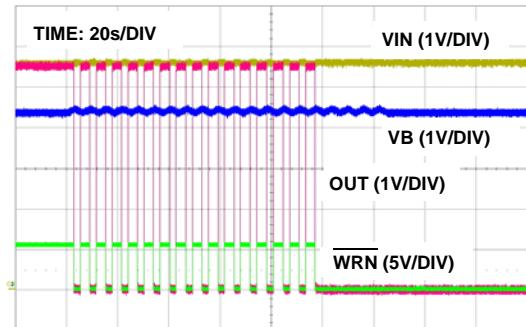

FIGURE 7. BATTERY OVERVOLTAGE PROTECTION. THE IC IS LATCHED OFF AFTER 16 COUNTS OF PROTECTION.  $V_B$  VOLTAGE VARIES BETWEEN 4.3V TO 4.5V
The battery voltage OVP is realized with the VB pin. The comparator CP3, as shown in Figure 1, monitors the VB pin and issues an overvoltage signal when the battery voltage exceeds the 4.34V (nominal) battery OVP threshold. The threshold has 30mV built-in hysteresis. The comparator CP3 has a built-in 180µs blanking time to prevent any transient voltage from triggering the OVP. If the OVP situation still exists after the blanking time, the power PFET is turned off. The control logic contains a 4-bit binary counter that if the battery overvoltage event occurs 16 times, the power PFET is turned off permanently, as shown in Figure 7. Recycling the input power or toggling the enable (EN) input will reset the counter and restart the ISL9209C.